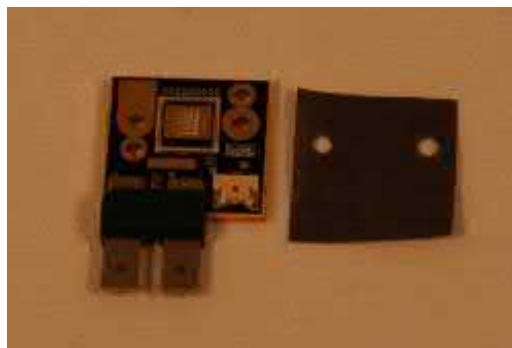

Figure 9: Luminus CBT-120 device and Thermal pad
1. Use a thermal pad with an area slightly larger than the area of the core board, as shown in Figure 9.